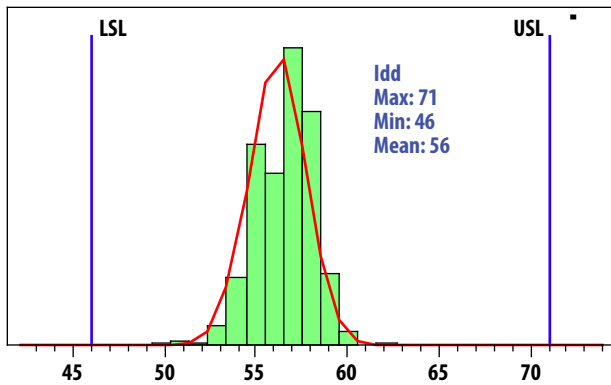

Figure 1. Idd @ 2.5GHz, 5V, 56mA Mean = 56
RF performance at $T_A = 25^{\circ}\text{C}$, $V_{dd} = 5\text{V}$, $R_{bias} = 3.6\text{ k}\Omega$, 2.5 GHz , measured on demo board in Figure 1 with component listed in Table 1 for 2.5 GHz matching.
1. Measurements at 2.5 GHz obtained using demo board described in Figure 1.